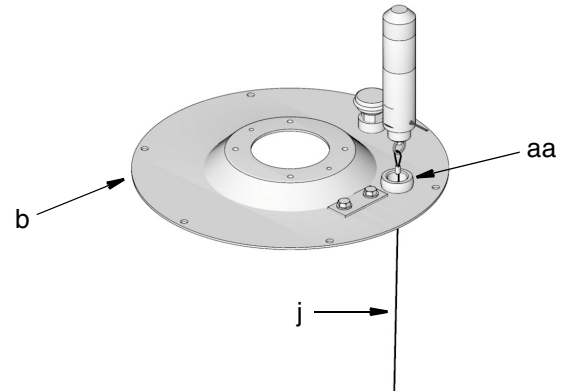

FIG. 6
10. Feed the low level cable (j) through accessory hole (aa) (FIG. 6) in the reservoir cover (b). Wrench tighten low level in place.